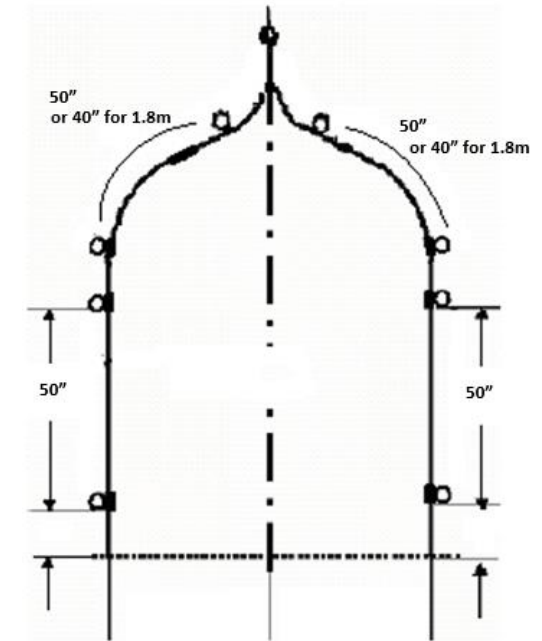

Figure 1: Position of the Pergola Cross Poles
- Slide the 2 top spacer bars onto 2 way and 3 way connectors. Ensure that the 3 way connector is in the middle then slide the Top Spacer Bars and connectors into the top of the Gothic Curves (as shown in Figure 1). The Top Spacer Bar should be approximately 3 inches from the top of the curve. Once in place tighten the grub screws.
- The second Pergola Cross Pole needs to be placed 50" below the top Cross Pole, to allow for the lattice infill as illustrated in Figure 1. This may require the second cross pole to be positioned on the join between the curve and the upright. Please note that this will change to 40" for the 1.8m width (40426-TBK) only.
- If you have chosen the lattice option you will need to position the Cross Poles, on the uprights, approximately 50" away from one another, as illustrated in Figure 1, to accommodate the lattice infill.